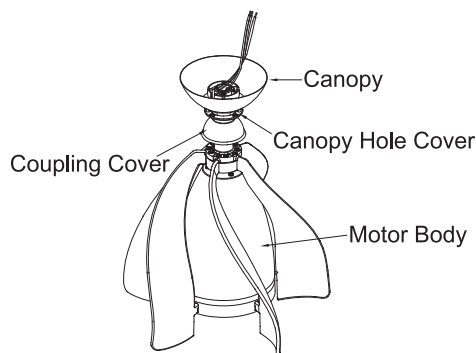

Fig. 11
**Step 2.** Slip the coupling cover, canopy hole cover and canopy onto the downrod. Carefully reinstall the hanger ball onto the downrod . Make sure the cross pin is in the correct position and the set screws are tight and the wires are not twisted. (Fig. 11)